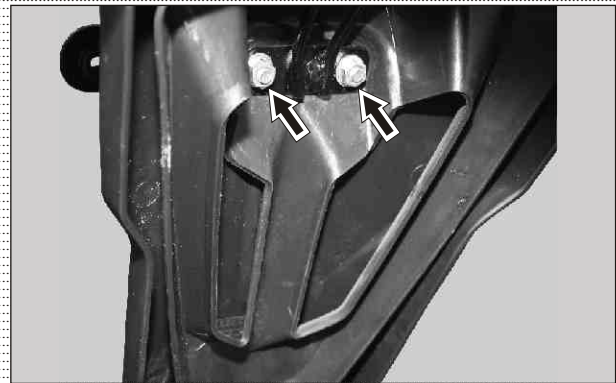

Fig. 6.137
- Remove hexagonal nut (2 Nos.) from the bracket license plate mounting and take out bracket license plate. (Fig.6.137)